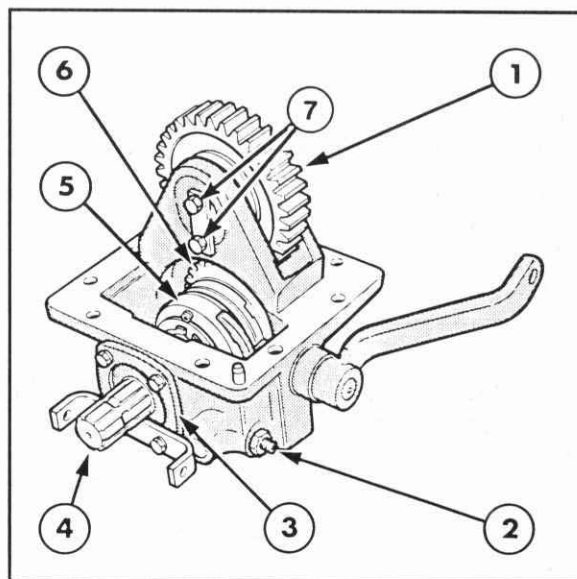

Figure 7-141
1. Withdraw the idler gear shaft retainer bolts, Figure 7-141, and remove the retainer.